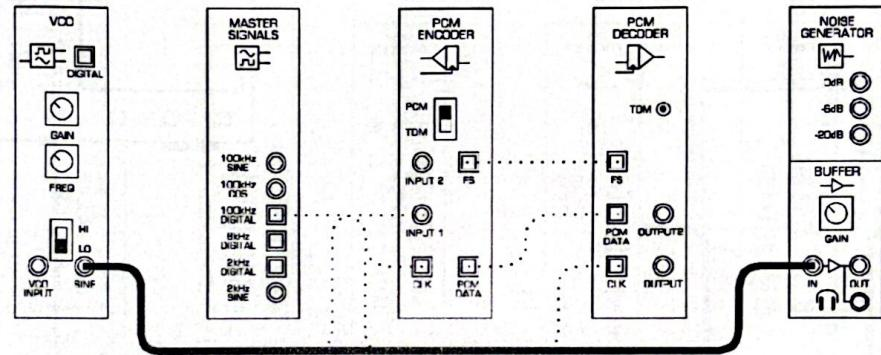

Figure 8
25. Modify the set-up as shown in Figure 8 below, again leaving the scope's connections as they are.
40. Disconnect the Buffer module's lead where it plugs to the PCM Decoder module's output and connect it to the VCO module's output (like you did when wiring Figure 8).